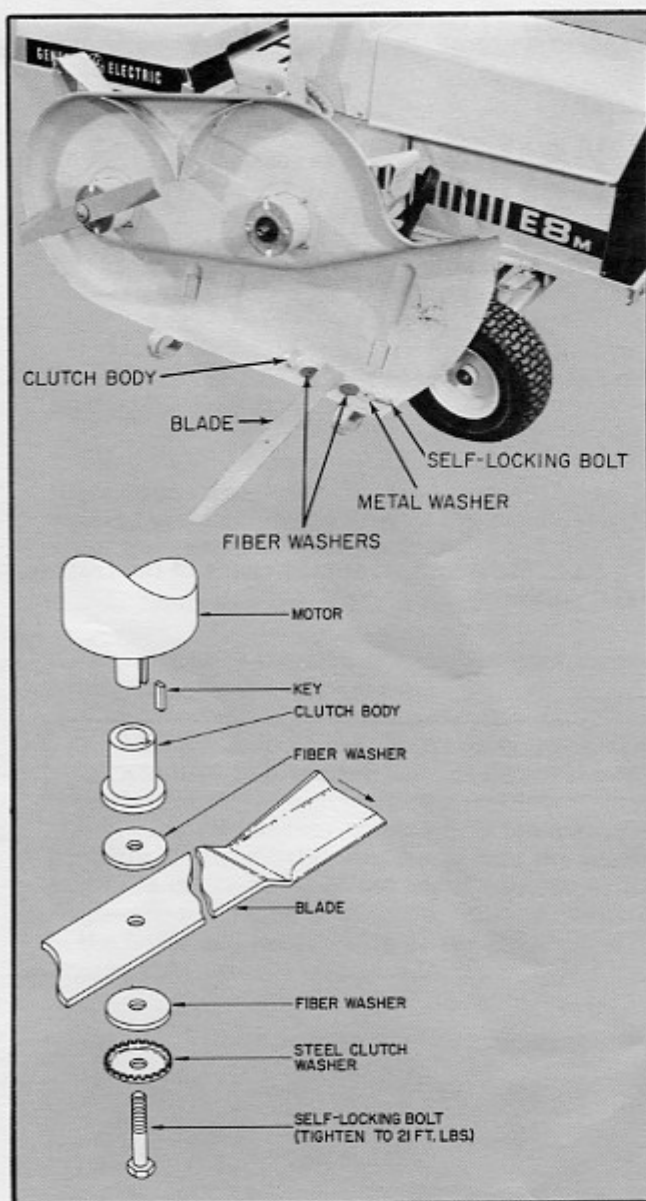

Figure 8
1. Mount the right-hand motor (closest to the side discharge opening) with its wire box towards the front of the mower. Mount the other motor so its wire box is towards the rear of the mower. Secure each motor with four screws, lockwashers, and nuts with the screw heads on the top side of the deck. (See Figure 8.)
2. Install the clutch and blade assemblies. Observe the blade placement so the cutting edge is in the proper direction for rotation. Tighten each self-locking cap screw to approximately 21 foot-pounds of torque. Make sure the square key stays in place when installing each clutch hub. (See Figure 8.)